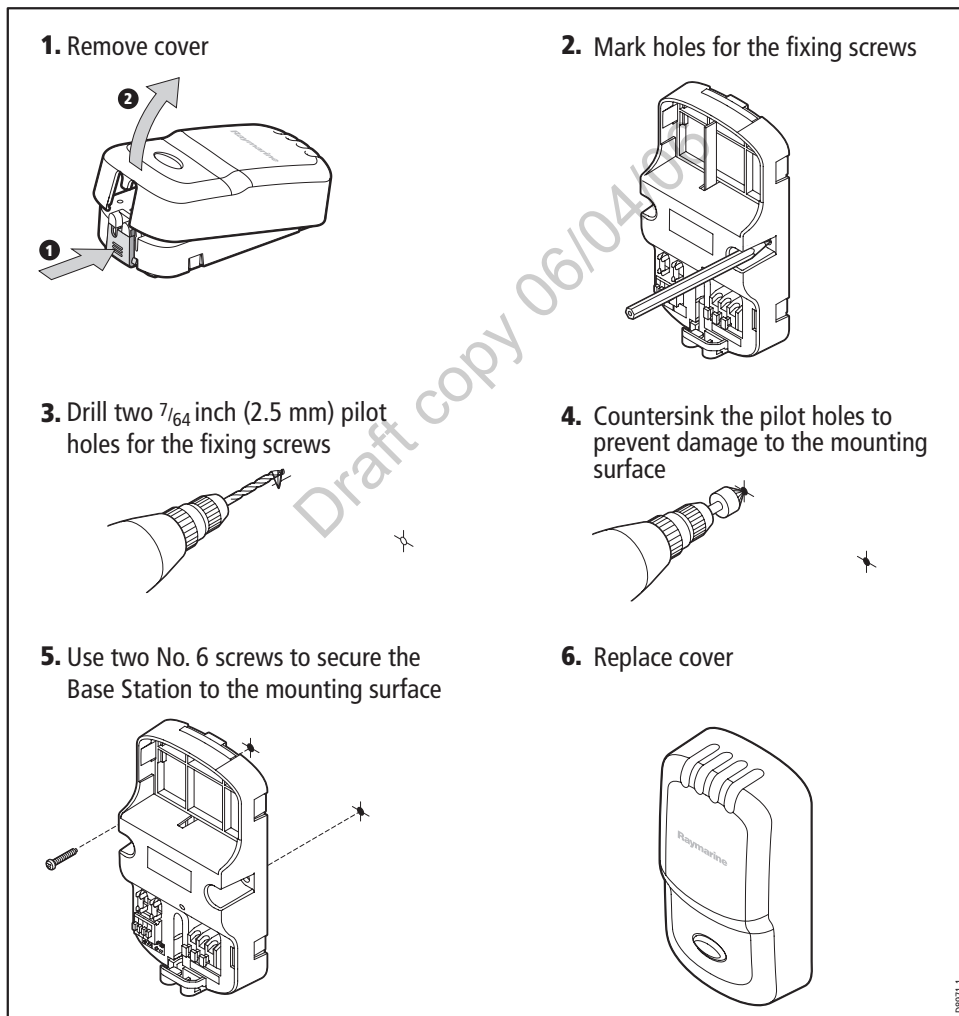
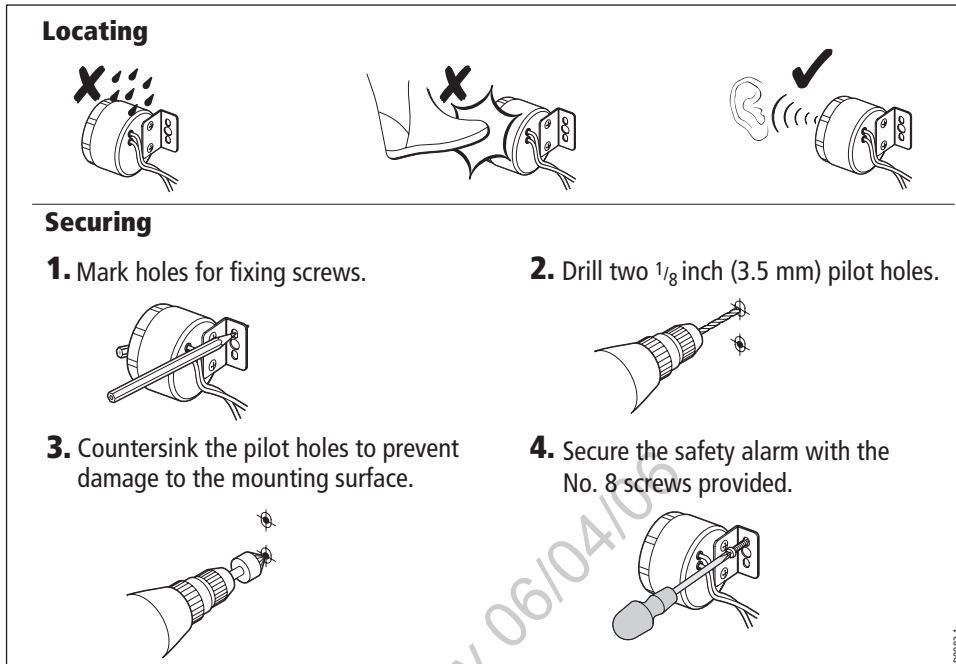
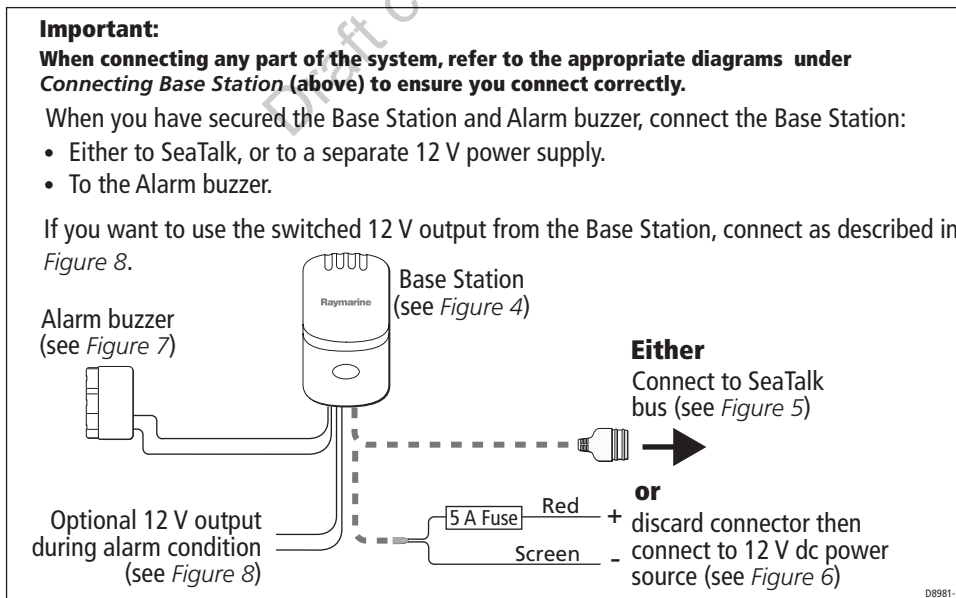

Figure 10 - Fitting Base Station
Figure 11 - Fitting buzzer
Figure 12 - Summary of system connections
- Fit and connect the Base Station and Alarm buzzer, as described in *Figure 10*, *Figure 11* and *Figure 12*, respectively. *Figure 12* shows a summary of system connections.